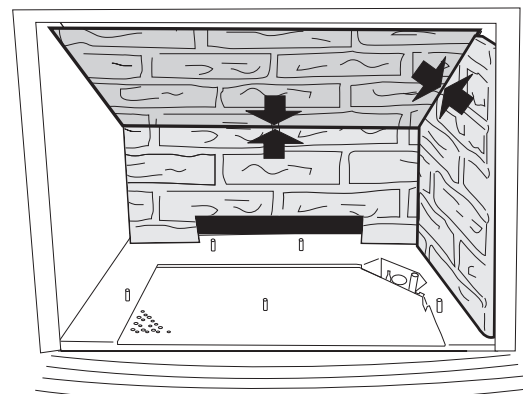

Figure 42. Install Upper Rear Panel
- 6. Install the Upper Rear Panel.** Simply rest it on the other two panels. Fig. 42.